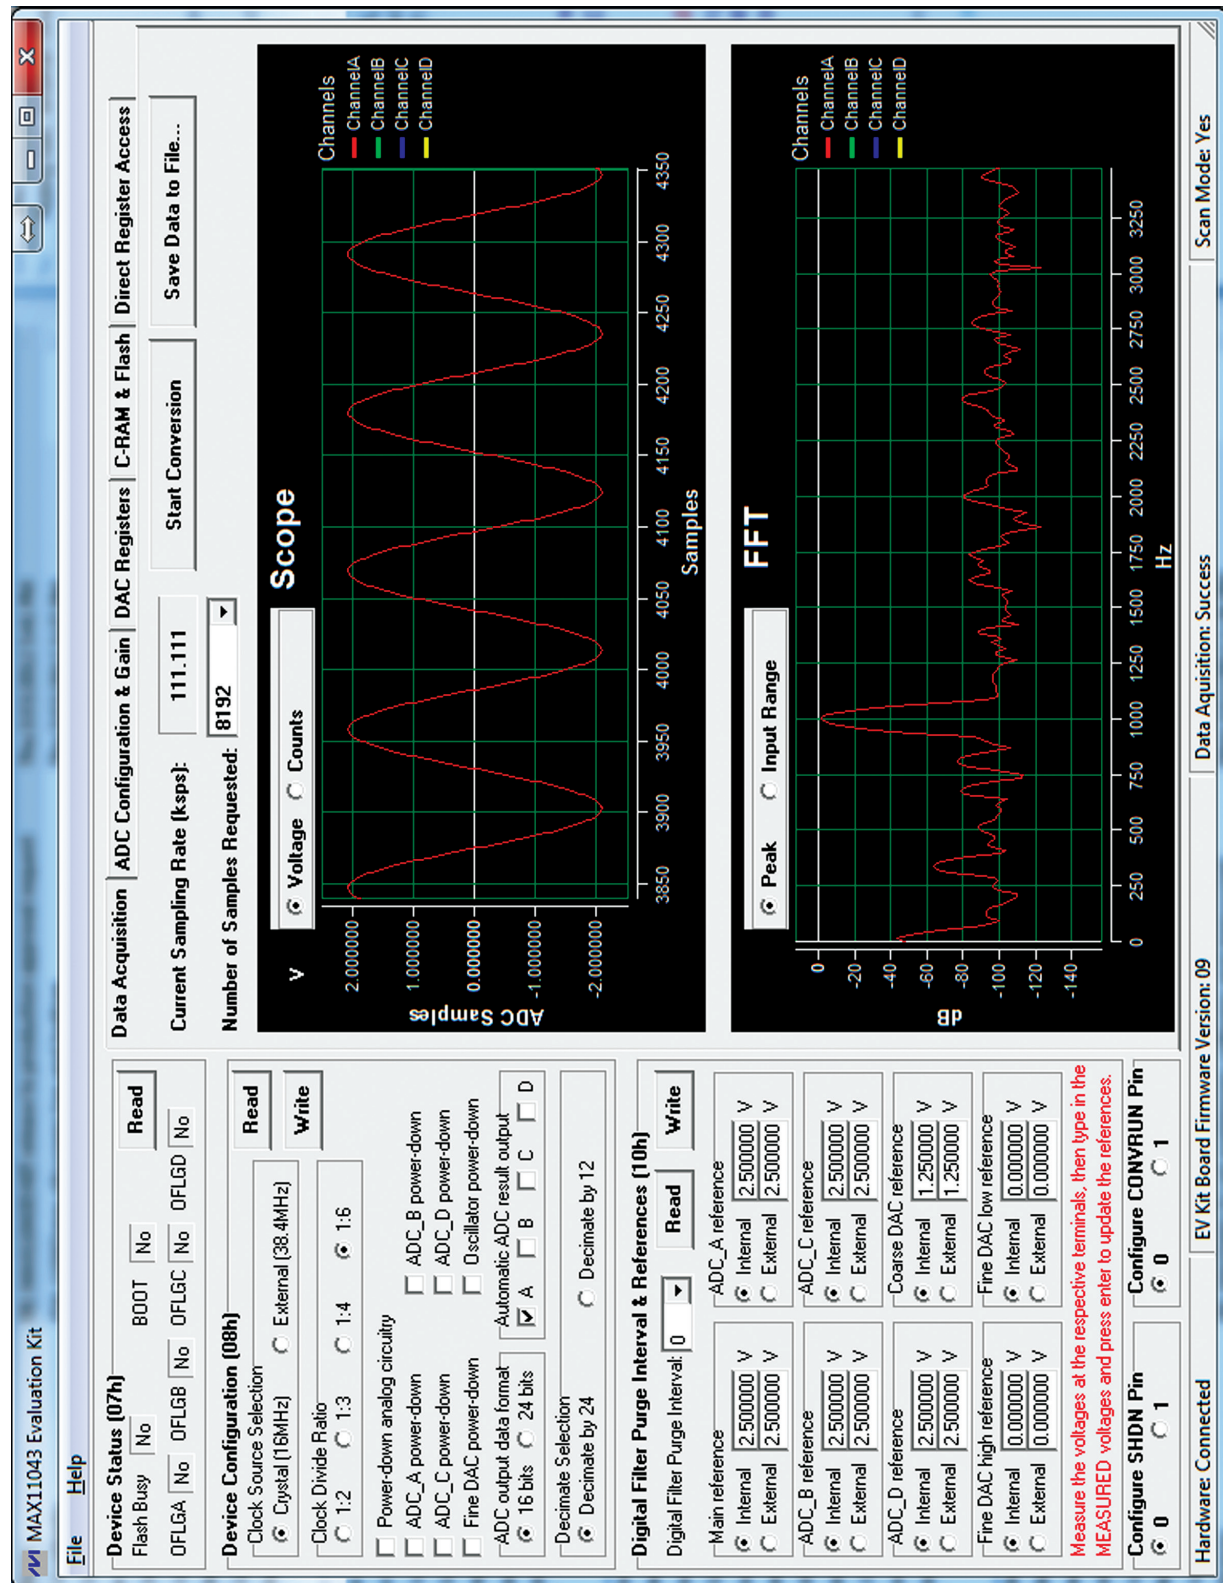

Figure 4. MAX11043 EV Kit Software Main Window (Data Acquisition Tab)
- 12) Navigate to the **Data Acquisition** tab (Figure 4). Click on the **Number of Samples Requested** drop-down list and select **8192**.
On the **Data Acquisition** tab sheet (Figure 4), the user can select the desired number of conversions in the **Number of Samples Requested** drop-down list. The sampling